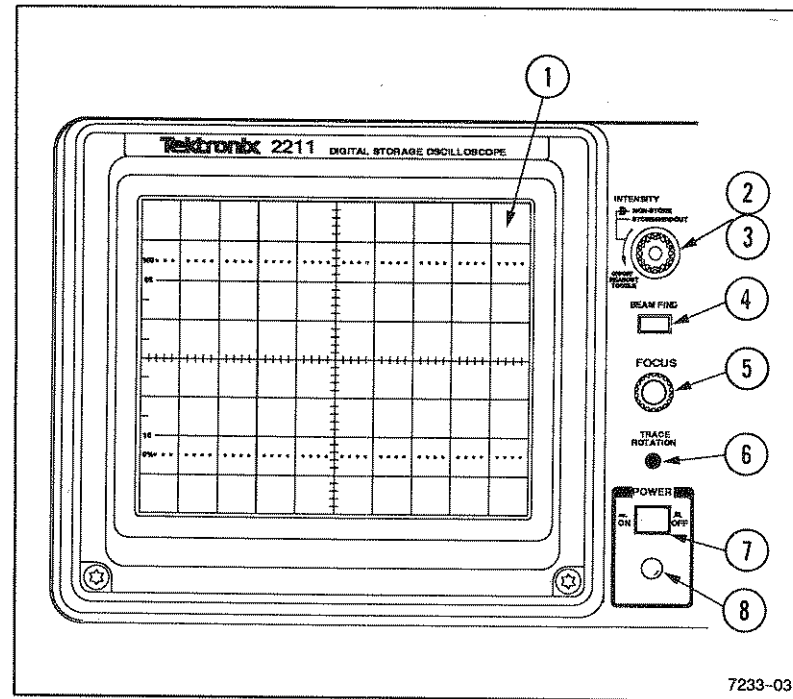

Figure 3-1. Power and Display controls and power-on indicator.
See Figure 3-1 for location of items 1 through 8.
- ① **INTERNAL GRATICULE**—Eliminates parallax viewing errors between the trace and the graticule lines. Rise time amplitude and measurement points are indicated at the left edge of the graticule.
- ② **INTENSITY Control**—Adjusts the brightness of the NON-STORE trace display.
- ③ **READOUT/STORE INTENSITY Control**—Adjusts the brightness of the STORE mode traces, CRT readout and cursor displays. This control is also used to either enable or disable the CRT readout and cursor display. The fully counterclockwise position of the control toggles the readout on and off.
- ④ **BEAM FIND Switch**—Compresses the vertical and horizontal deflection to within the graticule area. The traces are intensified to aid the user in locating traces that are overscanned or deflected outside of the crt viewing area.
- ⑤ **FOCUS Control**—Adjusts for optimum display definition. Once set, proper focusing is maintained over a wide range of display intensity.